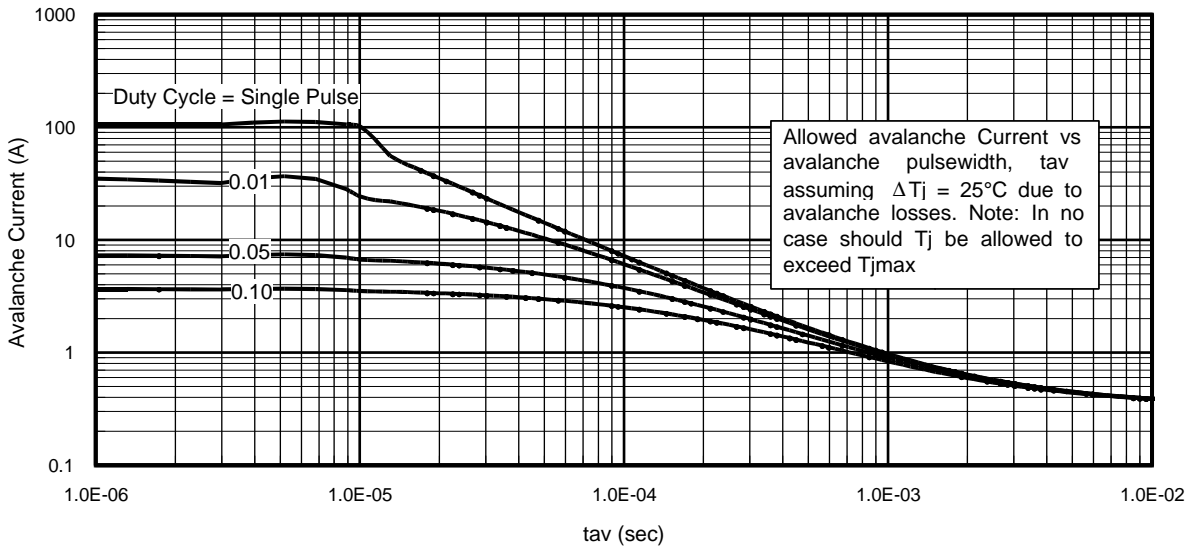

Fig 14. Typical Avalanche Current Vs. Pulsewidth
Notes on Repetitive Avalanche Curves , Figures 14, 15:
7. ΔT = Allowable rise in junction temperature, not to exceed T_{jmax} (assumed as 25°C in Figure 14, 15).
- ① Repetitive rating; pulse width limited by max. junction temperature.
- ② Starting $T_J = 25^\circ\text{C}$, $L = 0.93\text{mH}$, $R_G = 25\Omega$, $I_{AS} = 19\text{A}$.
- ③ Pulse width $\leq 400\mu\text{s}$; duty cycle $\leq 2\%$.
- ④ This only applies for I-Pak, L_S of D-Pak is measured between lead and center of die contact
- ⑤ R_θ is measured at T_J of approximately 90°C .
- ⑥ Contact factory for mounting information
- ⑦ Limited by T_{jmax} . See Figs. 14, 15, 17a, 17b for repetitive avalanche information
- ⑧ When D-Pak mounted on 1" square PCB (FR-4 or G-10 Material) . For recommended footprint and soldering techniques refer to application note #AN-994
- ⑨ Refer to D-Pak package for Part Marking, Tape and Reel information.